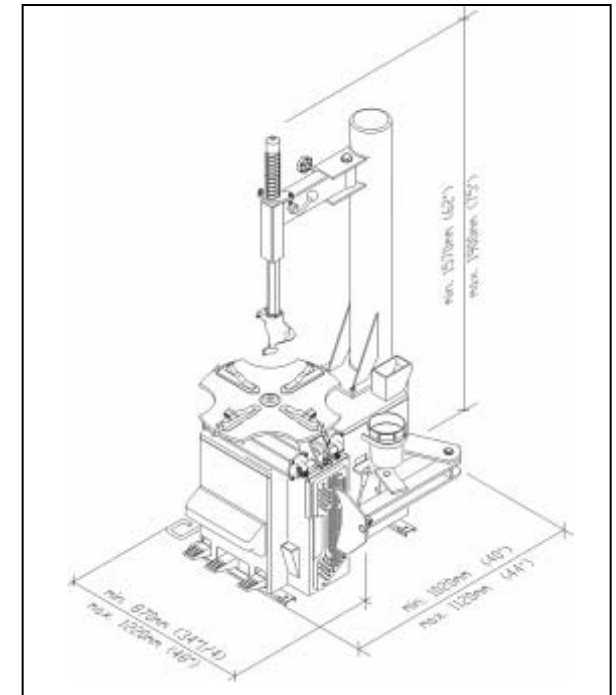

Fig.2
1.3 DIMENSIONS OF THE MACHINE (Fig.2)
1.3 DIMENSIONS DE LA MACHINE (Fig.2)